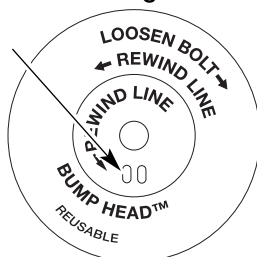

Fig. 36
**NOTE:** SplitLine™ can only be used with the inner reel with the slotted holes. Single line can be used on either type of inner reel. Use Figure 36 to identify the inner reel you have.